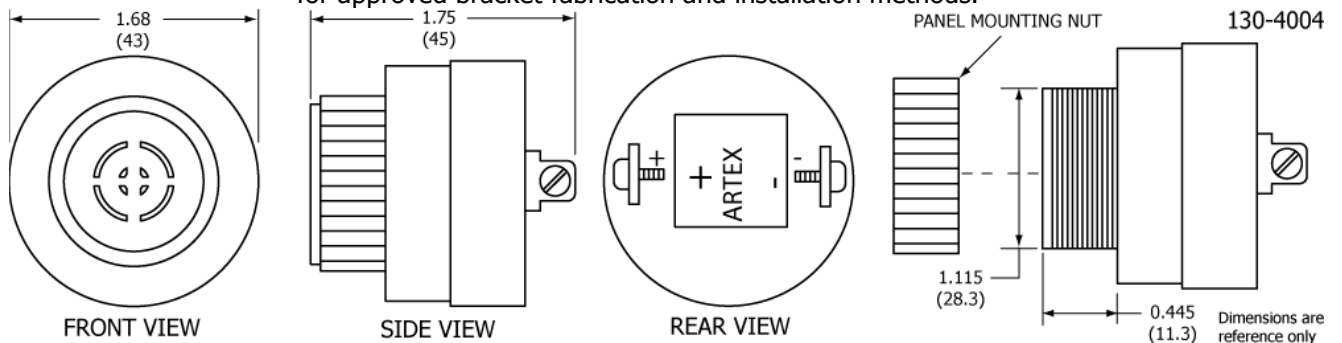

Figure 19 Buzzer Outline and Dimensions
- 2) Fabricate a bracket suitable for supporting the buzzer. Buzzer dimensions are shown in Figure 19 Buzzer Outline and Dimensions.